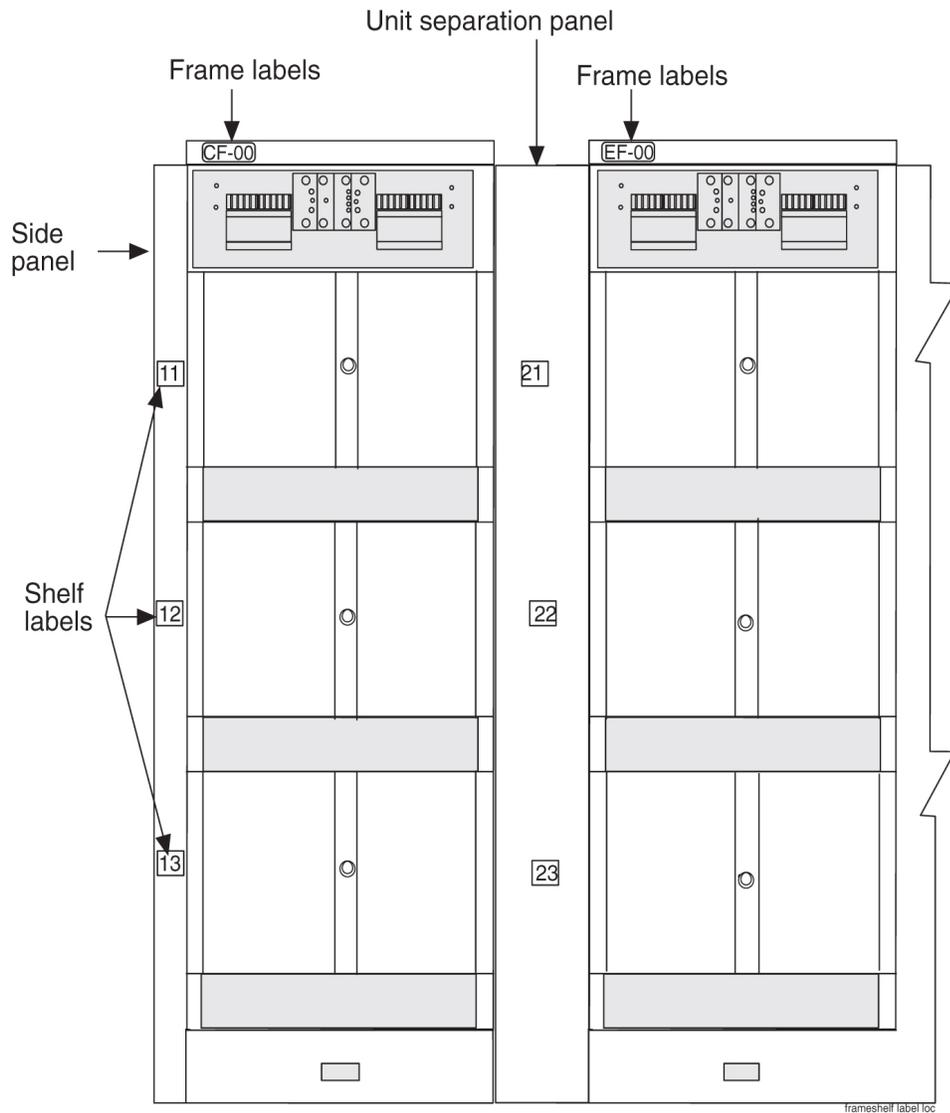
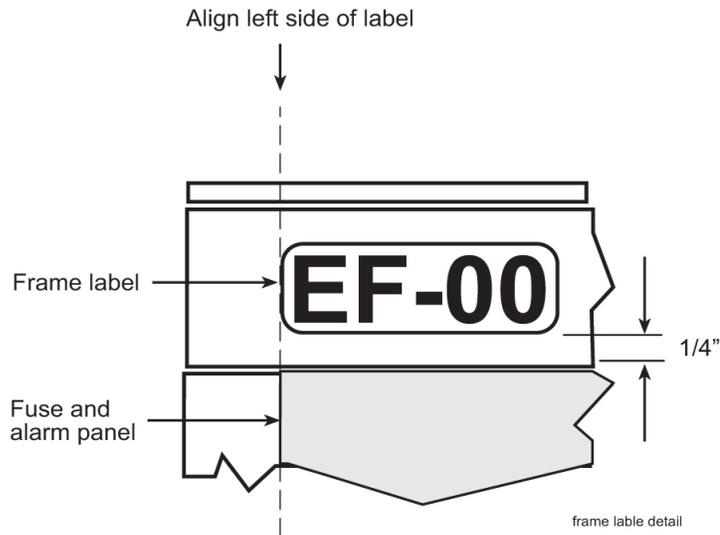

Figure 32: Frame and Shelf Label Locations
Figure 33: Frame Label Location - Detail
All of the frames shown in Table 6: Frame Labels and Part Numbers are labeled the same way on end panels and separation panels, see Figure 32: Frame and Shelf Label Locations and Figure 33: Frame Label Location - Detail.
Apply frame labels to the front of each frame as shown in Figure 32: Frame and Shelf Label Locations.
2. Firmly press the label into place as shown in *Figure 32: Frame and Shelf Label Locations* and *Figure 33: Frame Label Location - Detail..*